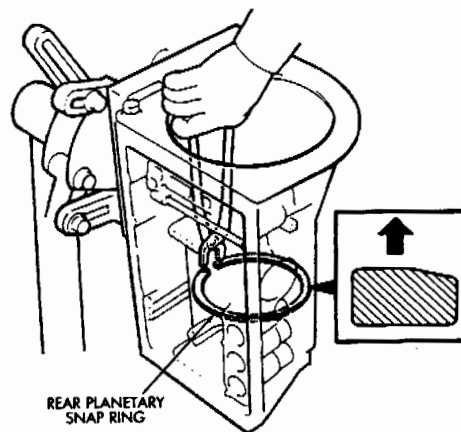

Fig. 6 Installing Planetary Snap Ring
(9) Install rear planetary snap ring with snap ring pliers B.Vi. FM- 29. Chamfered side of snap ring faces up and toward case front (Fig. 6).
(10) Check first-reverse brake pack clearance with feeler gauge. Clearance should be: 0.6 to 1.74 mm (.024 to .069 in) on 4-cyl. transmissions and .70 to 2.00 mm (.028 to .079 in) on 6-cyl. transmissions. If clearance is incorrect, planetary assembly, thrust bearing or snap ring is not properly seated in case. Remove and reinstall components if necessary.